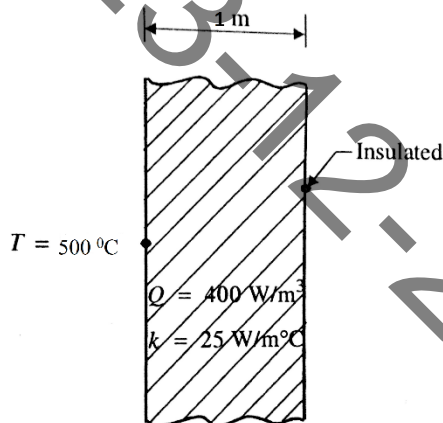

Figure 7
7. The plane wall shown in figure 7. Is 1 m thick. The left surface of wall is maintained at a constant temperature of  $500^\circ\text{C}$ , and the right surface is insulated. The thermal conductivity  $k=25\text{W/m}^\circ\text{C}$ , and there is uniform heat generation inside the wall of  $Q = 400\text{ W/m}^3$ . Determine the temperature distribution through the wall thickness using linear elements. [15]